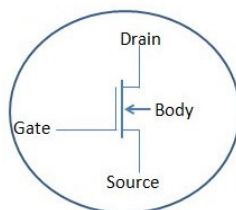
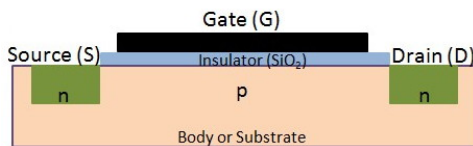

Figure 10.2.1 The n-channel enhancement mode MOSFET symbol.
Figure 10.2.2 A typical cross-section of a n-channel enhancement mode MOSFET.
Arguably the most important invention of modern times, the transistor was invented in 1947 at Bell Labs by John Bardeen, William Shockley, and Walter Brattain. The result of efforts to replace inefficient and bulky vacuum tubes in current regulation and switching functions. Further advances in transistor technology led to the field effect transistors (FETs), the bedrock of modern electronics. FETs operate by utilizing an electric field to control the flow of charge carriers along a channel, analogous to a water valve to control the flow of water in your kitchen sink. The FET consists of 3 terminals, a source (S), drain (D), and gate (G). The region between the source and drain is called the channel. The conduction in the channel depends on the availability of charge carriers controlled by the gate voltage. Figure depicts a typical schematic and Figure 10.2.1 the associated cross-section of a FET with the source, drain and gate terminals labeled. FETs come in a variety of flavors depending on their channel doping (leading to enhancement and depletion modes) and gate types, as seen in Figure 10.2.2 The two FET types are junction field effect transistors (JFETs) and metal oxide semiconductor field effect transistors (MOSFETs).